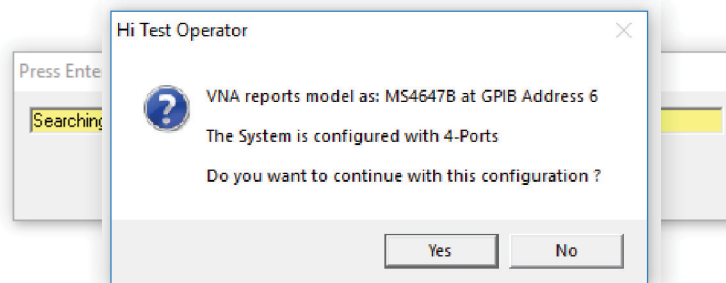

Figure 3-7. VNA Confirmation Dialog Box
- Click OK and continue. When a VNA is found, a VNA confirmation box appears, as shown in Figure 3-7.